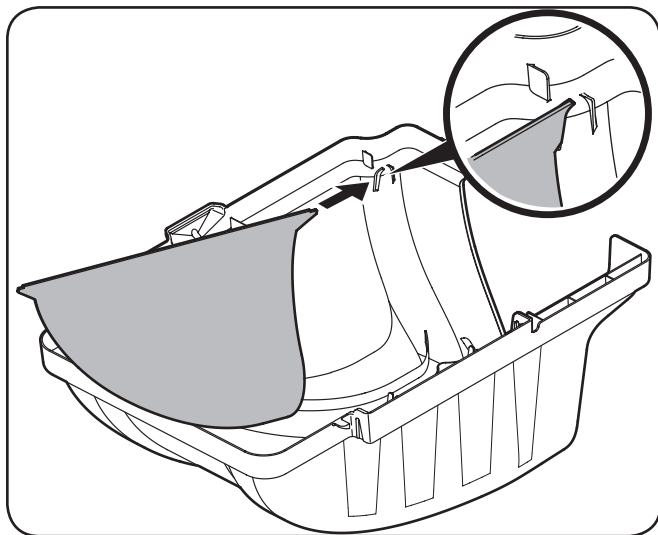
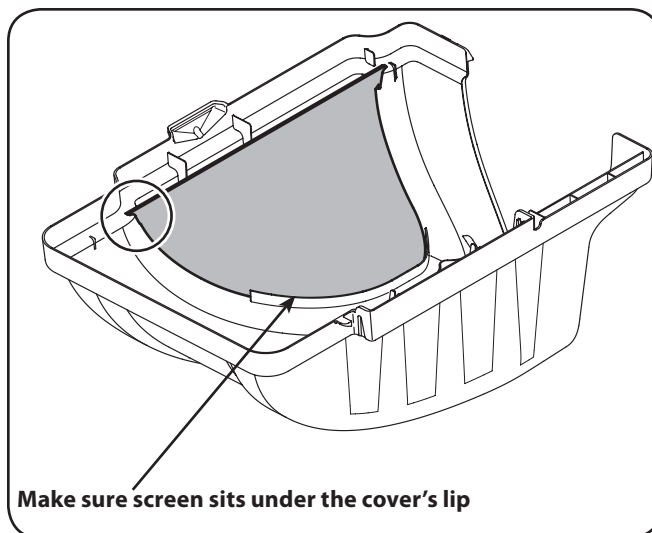

Figure 4-9
Figure 4-10
3. Install the bagger screen into the bagger cover by first inserting one end into the corresponding cutout mounting hole, as in Fig. 4-9. Make sure to feed the screen under the lip, as in Fig. 4-10.
4. Clip in the other side of the screen by flexing the screen and pushing it down into the other corresponding cutout hole. See Fig. 4-10.